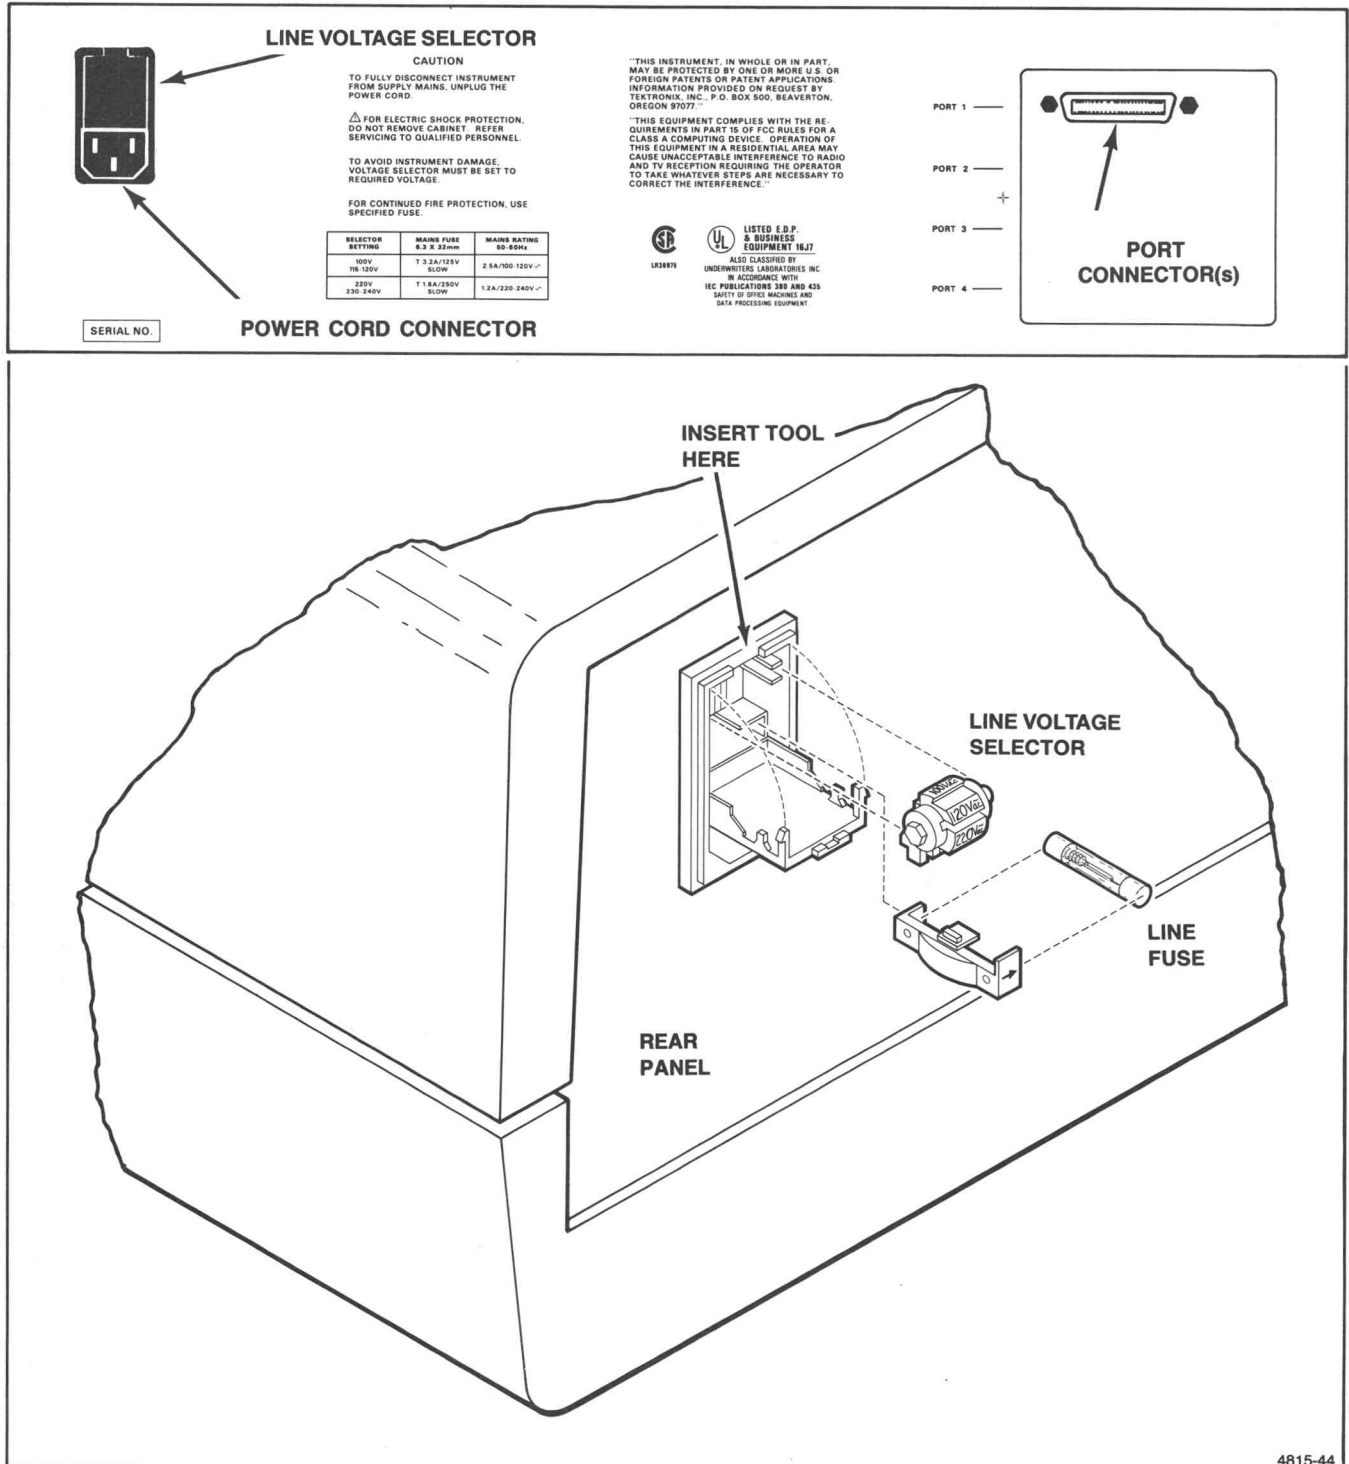

Figure 5-8. Line Fuse and Voltage Selector Location.
1. Check the voltage setting and fuse on the rear panel. See Figure 5-8 for the line voltage selector and fuse location, and Table 5-1 for the fusing requirements.